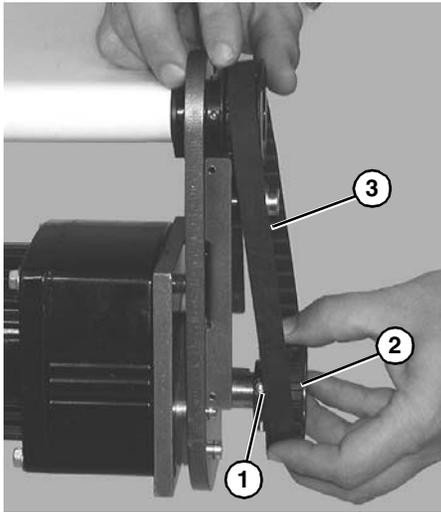

Figure 27
If drive pulley (Figure 27, item J) is replaced, wrap timing belt around drive pulley and complete step 3.
- Loosen drive pulley set screws (**Figure 27, item 1**). Remove drive pulley (**Figure 27, item 2**) and timing belt (**Figure 27, item 3**).
*Drive pulley (**Figure 27, item 2**) is removed. Wrap timing belt around drive pulley and complete step 10.*